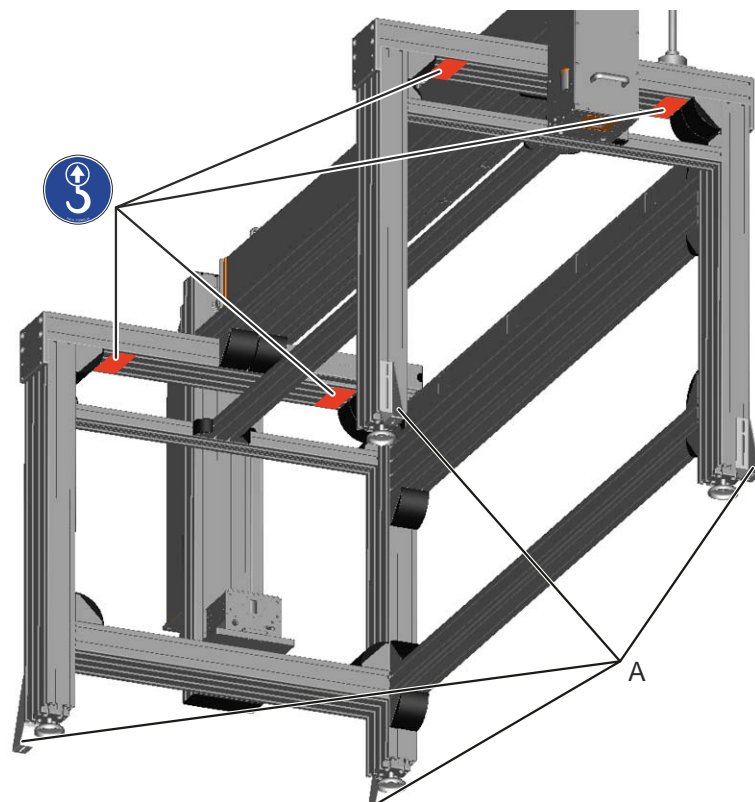

Figure 25: Main frame - lifting points and mounting brackets
2. When using a crane, position the lifting harness or belt close to the lifting points indicated in Figure 25.
3. Fix the mounting brackets (see Figure 25, A) to the creeper dollies.